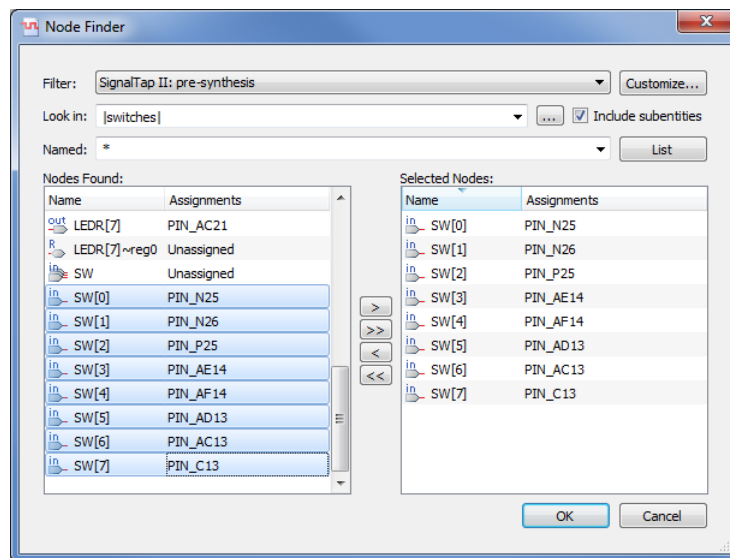

Figure 8. Adding nodes in the Node Finder window on a DE-series board.
3. We now need to add the nodes in the project that we wish to probe. In the Setup tab of the SignalTap II window, double-click in the area labeled Double-click to add nodes, bringing up the Node Finder window, as shown in Figure 8. For the Filter field, select SignalTap II: pre-synthesis, and for the Look in field select [switches]. Click List. This will now display all the nodes that can be probed in the project. Highlight SW[0] to SW[7], and then click the > button to add the switches to be probed. Then click OK.